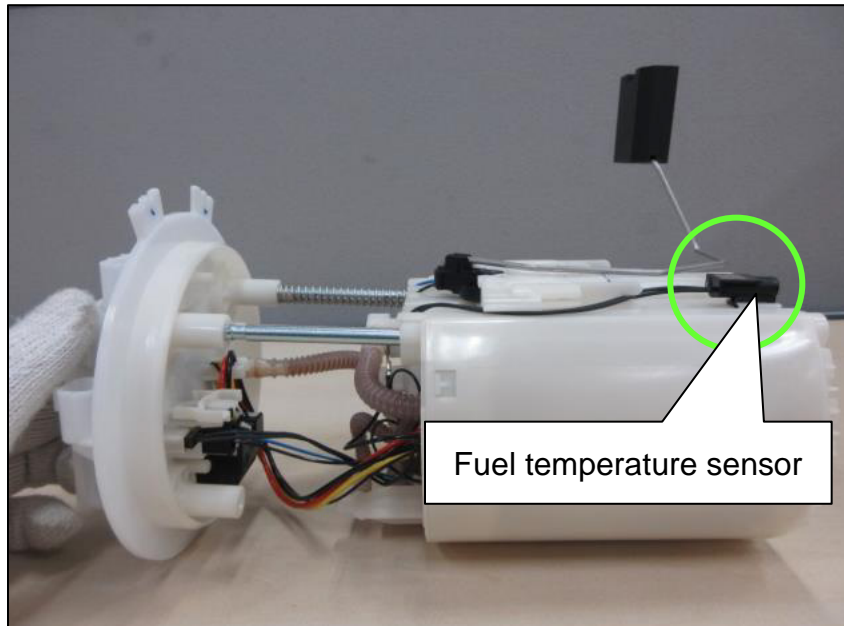

Figure 3
3. Lay the fuel pump sideways and position it so that the fuel temperature sensor faces upward as shown in Figure 3.